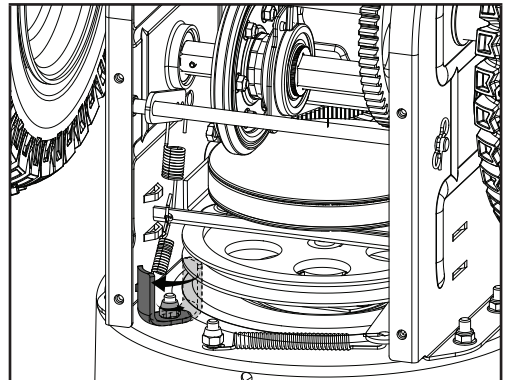

Figure 29A
7. Slip the new auger drive belt into the compartment from the bottom of the snowblower placing it around the bottom of the auger drive pulley and slipping it around the front pulley on the engine. Ensure the belt is positioned between the bottom belt guard and the bottom of the auger drive pulley. You may need to remove the bolt holding the lower belt guard in place to properly seat the belt into the pulley, replace the belt guard and bolt after installing the belt into the pulley (Fig. 29A/B).